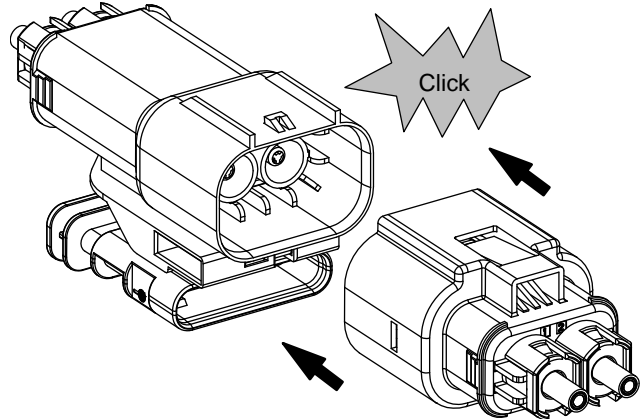

Figure 24
1. Push the AMP+ HVA400 connector halves together until the main latch engages with a click. See Figure 24.